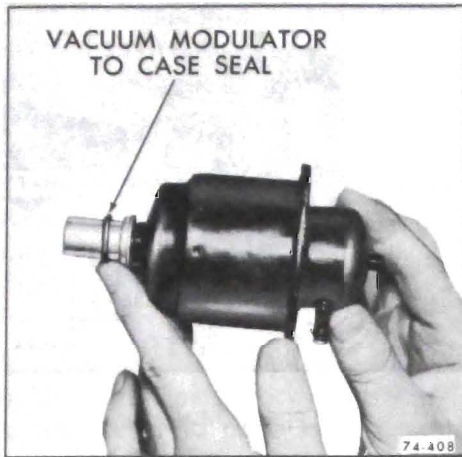

Figure 74-146
2. Inspect and, if necessary, remove vacuum modulator to case oil seal. See Figure 74-146.